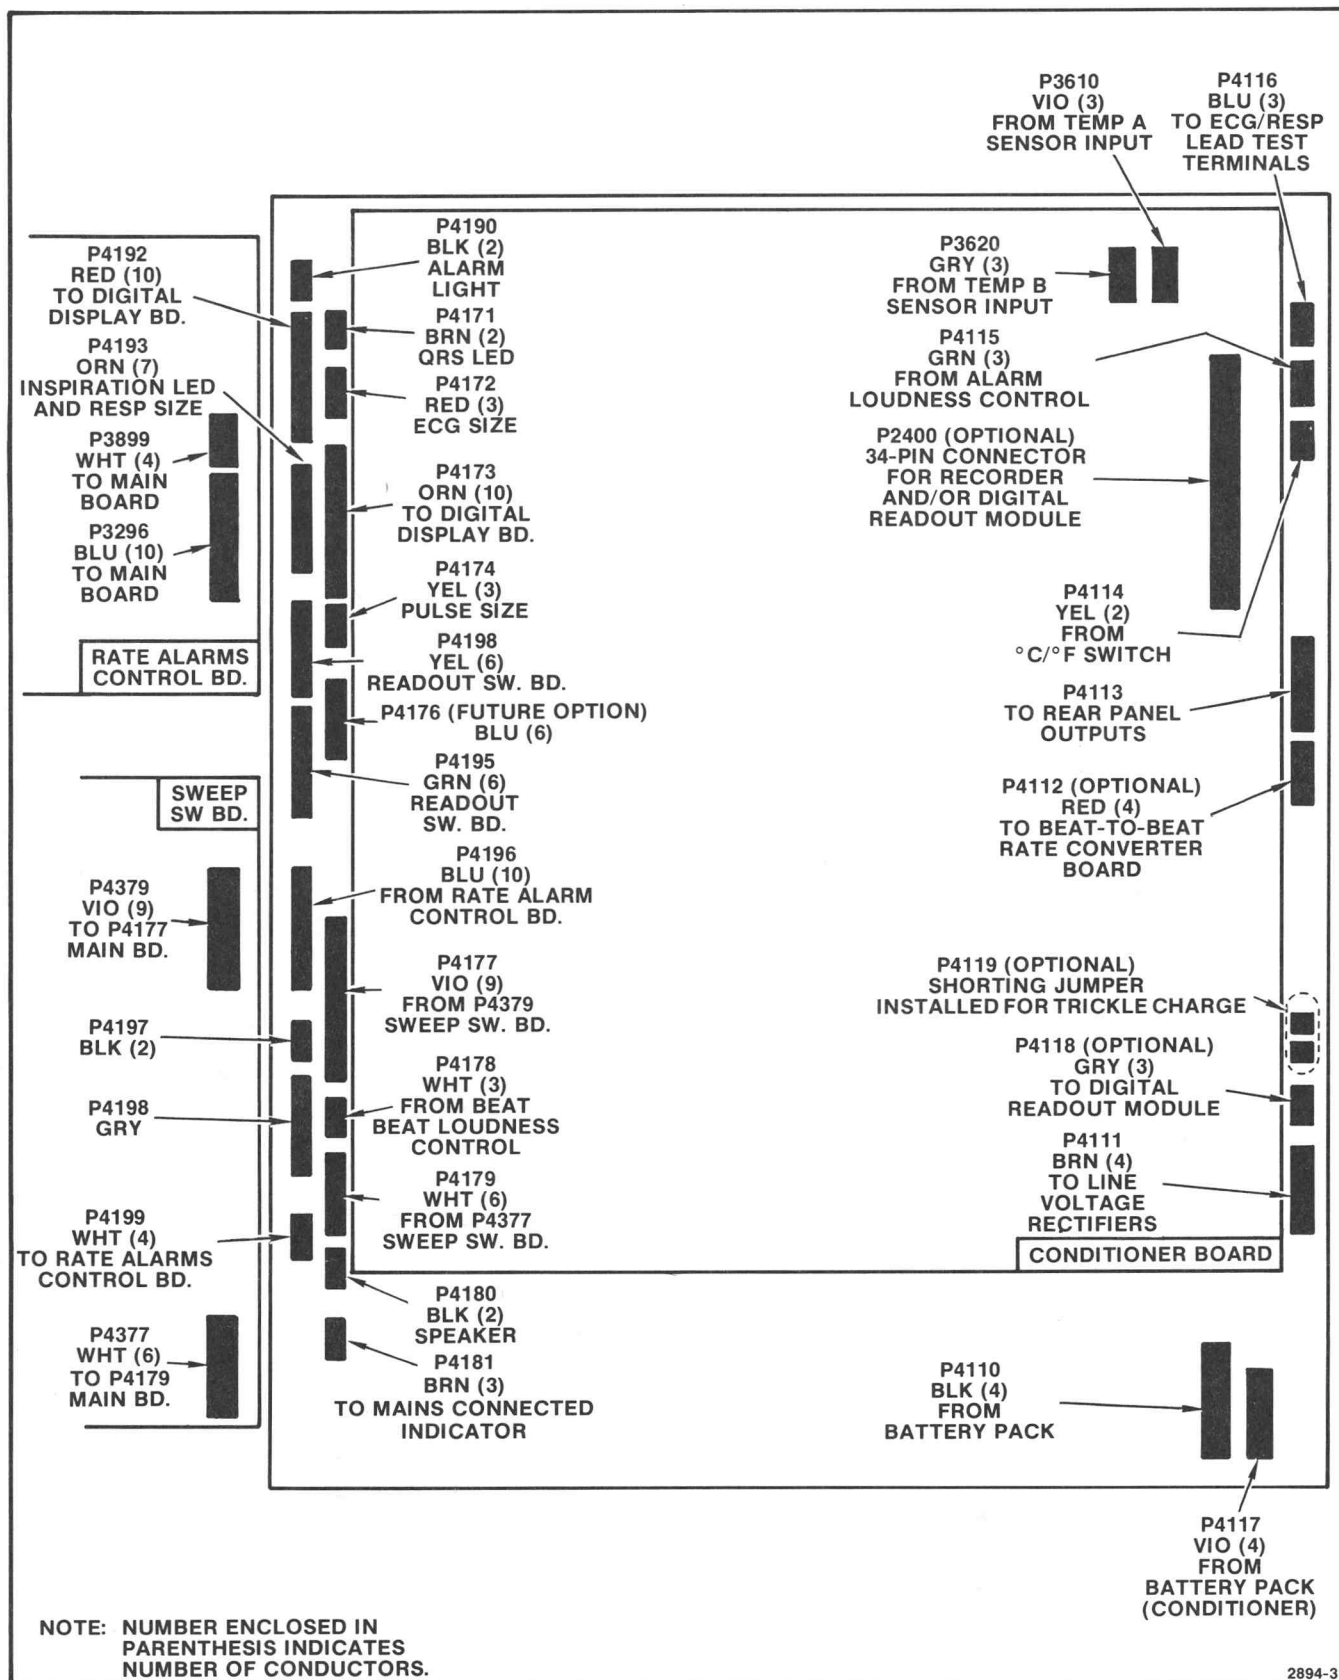

Fig. 5-9. Main and conditioner board cable connections.
6. Connect cable plugs to Main board and Conditioner board as shown in Fig. 5-9.
To install board, reverse removal procedure. Refer to Fig. 5-9 for locations of cable plugs.